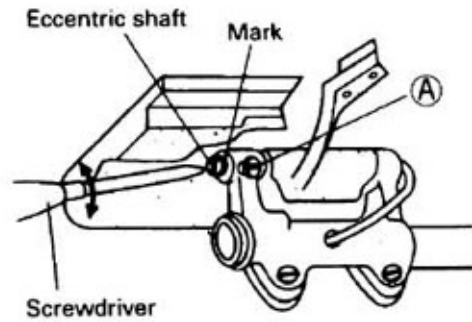

Fig.21
20. Adjustment of feed dog inclination (Fig.21):